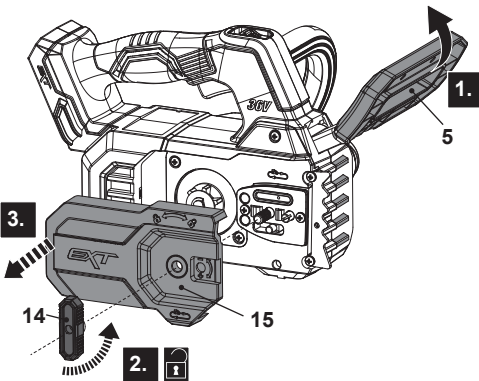

Fig. 1
**WARNING!** Pull the front safeguard (chain brake lever) (5) fully backward to disengage the chain brake.
2. Pull the front safeguard (chain brake lever) (5) fully backward to disengage the chain brake (Fig. 1, step 1).
3. Unscrew the locking wheel (14) anticlockwise and then remove it together with the chain saw cover (15) (Fig. 1, steps 2, 3).